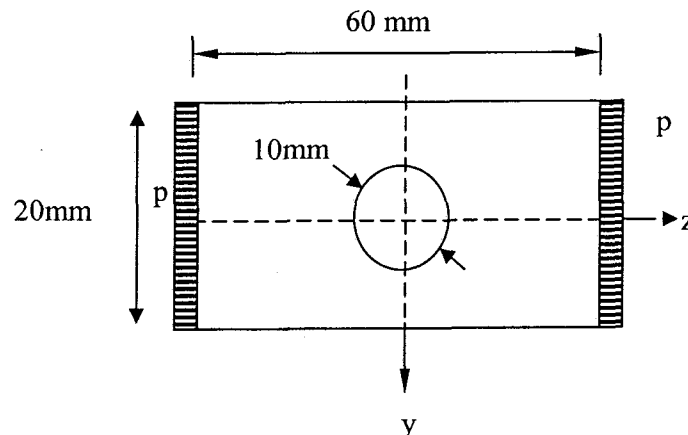

Figure 10
- (b) A plate with a hole is subjected to tension, $p = 25.0 \text{ N/mm}^2$ as shown in Figure 10. It is a 2D plane stress problem. The plate is modeled with linear four-noded rectangular elements and three-noded triangular element. Assume Elastic Modulus $E = 7.0 \times 10^4 \text{ N/mm}^2$, thickness, $t = 1 \text{ mm}$ and Poisson ratio, $\nu = 0.25$.